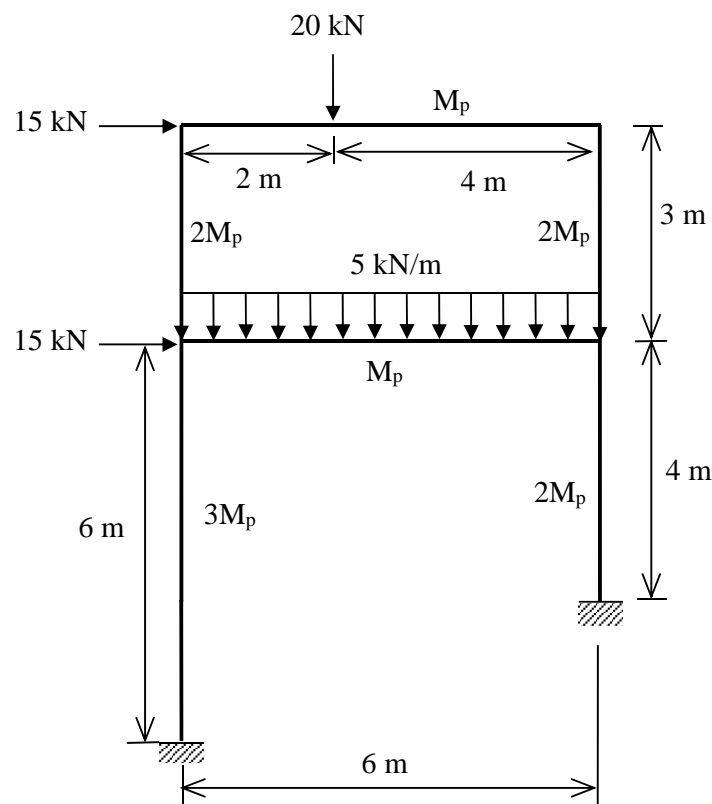

Figure 5 / Rajah 5
5. A rigid-jointed frame is designed to carry the working loads as shown in **Figure 5**. If the collapse load factor is 1.8, determine the required plastic moment capacity (M_p) for all independent mechanisms and any five combined mechanisms.